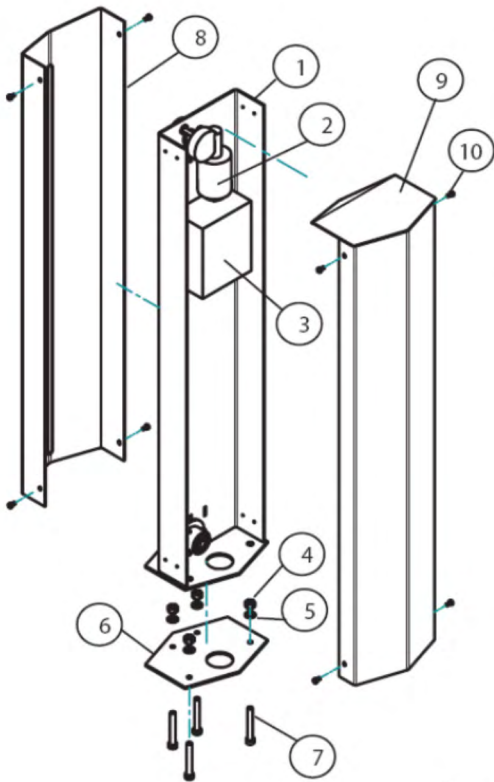
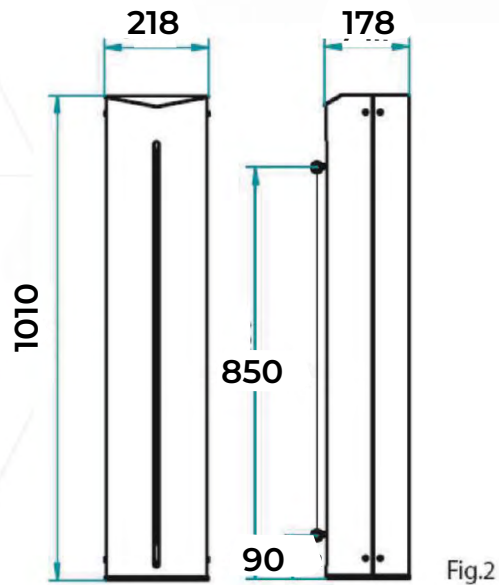

Fig.4
Fig.2
■ 7.2. Installation of the Column (Fig.1, Fig.2, Fig.4)
5. Unscrew the 8 screws [10] take off the frontal [8] and the rear cover [9] of the column (Fig. 4)